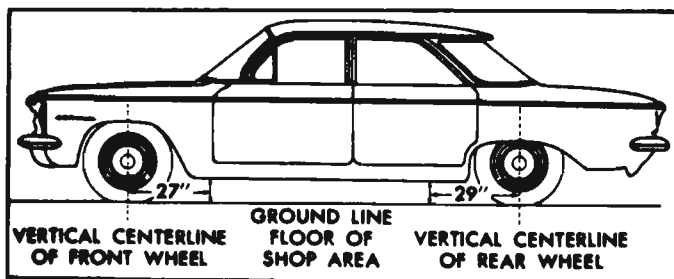

Fig. 3-23—Checking Riding Heights
3. Measure the distance from the floor to the bottom of the rocker panel 29" ahead of center line of rear wheel (fig. 3-23).